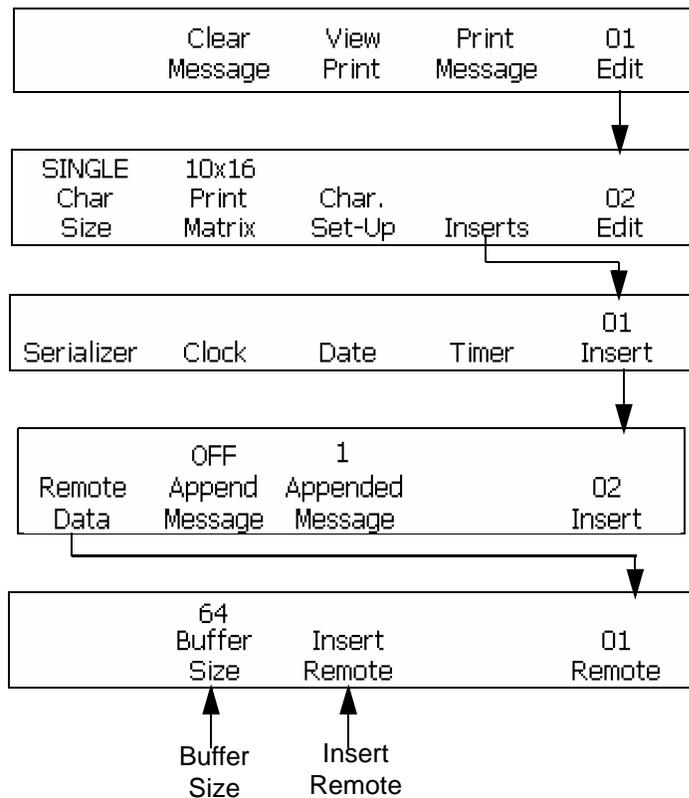

Figure 6-45: Accessing Frame <01 Remote>
- 1 Begin in the frame <01 Remote>. Refer to Figure 6-45.